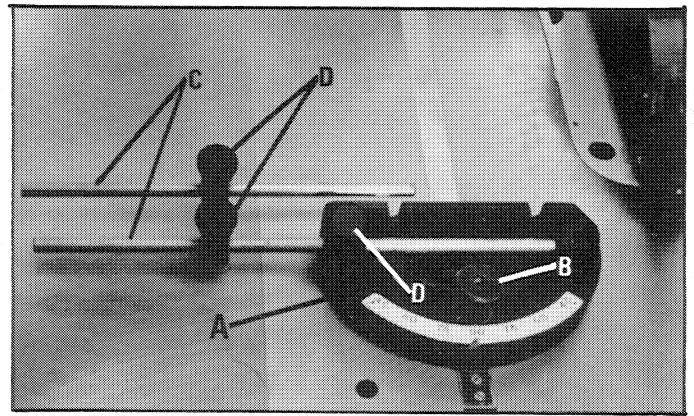

Fig. 38
The miter gage body (A) Fig. 38, can be adjusted up to 45 degrees right or left by loosening lock knob (B).
The adjustable stop rods (C) Fig. 38, can be adjusted by loosening lock knobs (D).